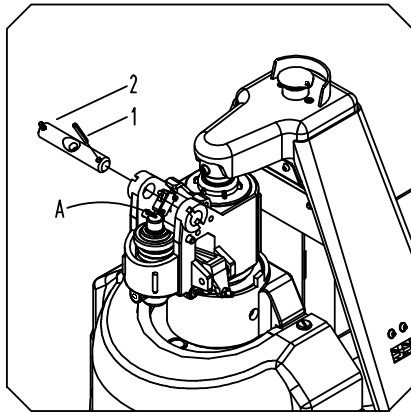

Figure 1
- 4.1 Refer to Figure 1. Dismantle pin 1 from pin 2, and then pull out pin 2.